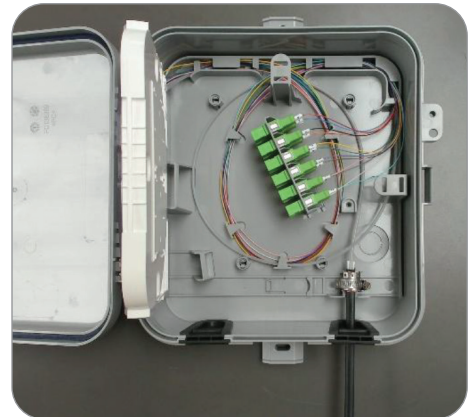

Figure 11
4. Route the pigtail assemblies through the splice chamber. (Figure 11)